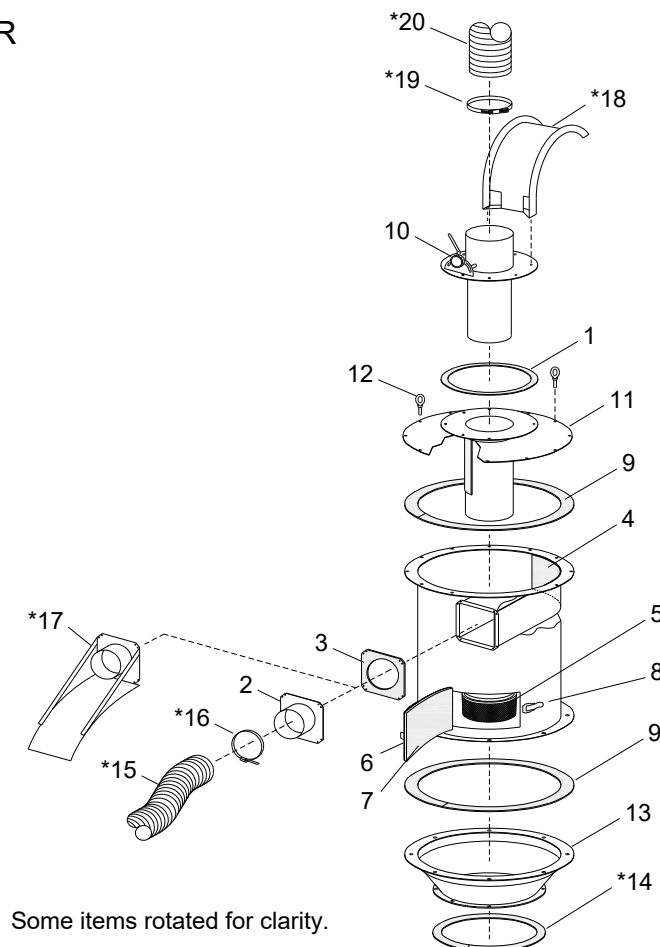

Figure 43
9.11 900 CFM Reclaimer, for 16" Diameter Blast Machine – Figure 43